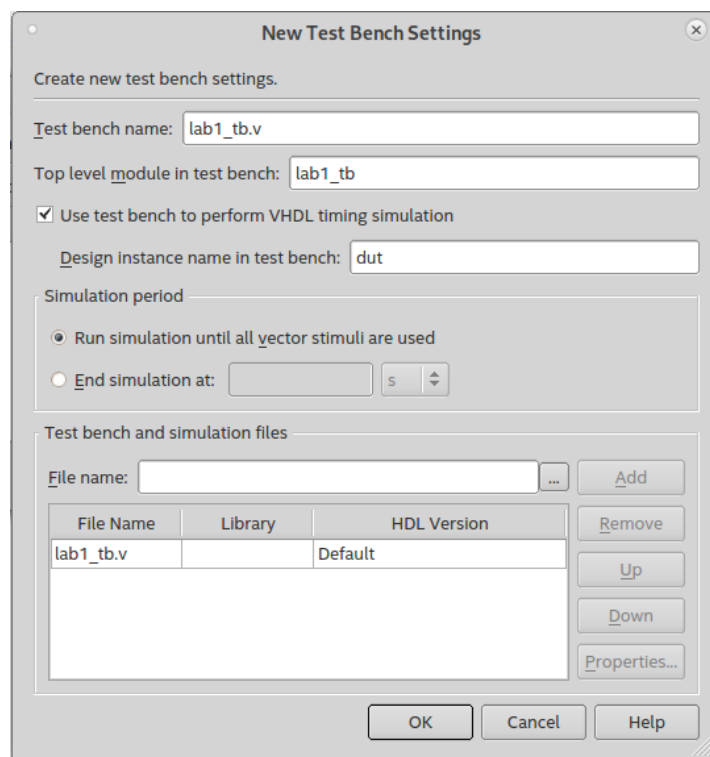

Figure 15: Testbench settings dialog.
4. Select the "Compile test bench" option, and click on the "Test Benches" button. Select lab1_tb.v and click the "Edit" button. Ensure the various fields match the dialog in Fig. 15.